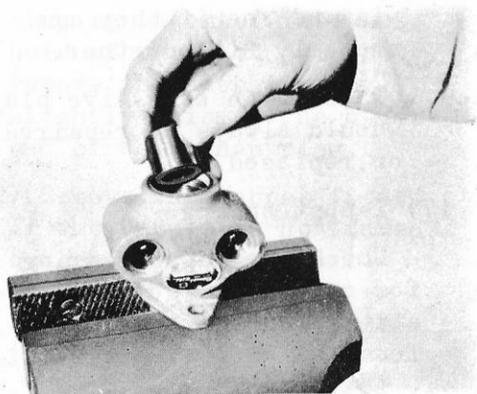

Fig. 9-85
- 2) Insert the piston into the feed pump body. When doing this, care should be taken to put the concave side of the piston into the push rod. (See Fig. 9-85)